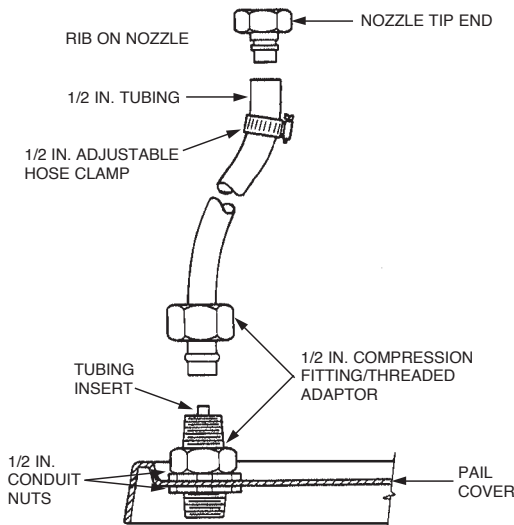

FIGURE 7-4
- Using the nozzle tip end, slide a length of 1/2 in. (13 mm) plastic tubing over the rib on the nozzle tip and secure with a 1/2 in. (13 mm) adjustable hose clamp. See Figure 7-4.
- Secure the 1/2 in. compression fitting/threaded adaptors to the pail cover, using 1/2 in. conduit nuts. See Figure 7-4.
- e. Attach the tubing ends to the compression fittings. Tubing inserts are required. See Figure 7-4.